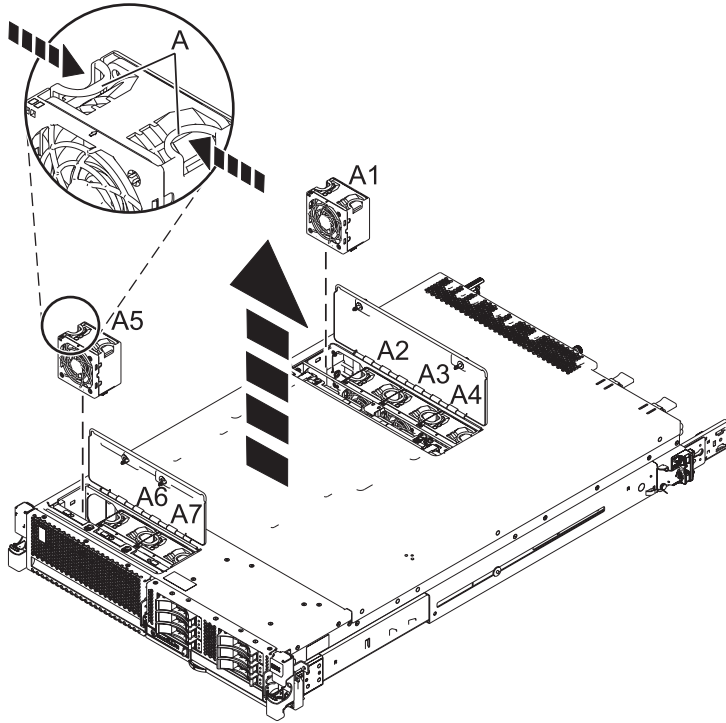

Figure 1. Removing a fan from the 31E/2B, 31E/1C, 31E/1D, 31E/2C, or 31E/2D
- a. Feed the fan cage cable through the chassis wall opening as shown in Figure 1.